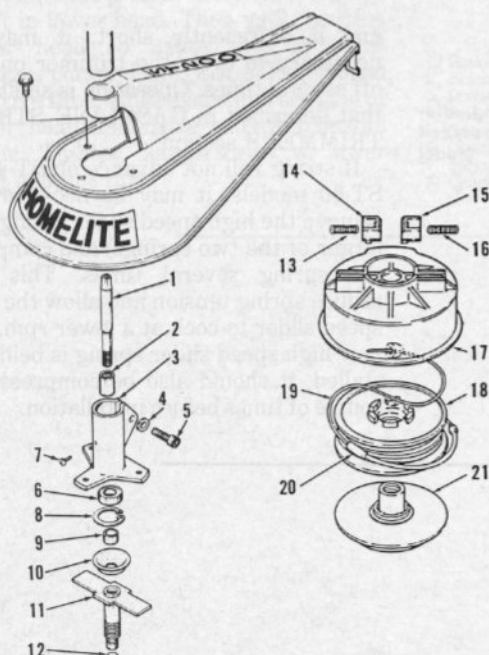

Fig. HL29-1—Exploded view of lower head on Model ST-200. Components (11 through 21) are used on Models ST-80, ST-100 and ST-120.
will automatically feed out string by cycling the engine throttle from full speed to idle speed. String head (17—Fig. HL29-1, HL29-3 and HL29-4) encases two slider and spring pairs for high speed and low speed engagement of
Spool retainer (21—Fig. HL29-1, HL29-3 and HL29-4) has left-hand threads and must be turned clockwise for removal. Be sure adapter (11) is fully seated in recess of string head (17) to prevent slider spring ejection.
Models ST-200 and ST-210 are equipped with a flexible drive shaft between the engine and drive head. The flexible drive shaft should be removed, inspected and lubricated after every 25 hours of operation. To remove drive shaft, remove screw (7—Fig. HL29-1 or HL-29-5) and loosen clamp screw (5). Slide head off drive tube and pull flexible shaft from tube. Clean and inspect shaft, then lubricate shaft with lithium grease. Insert shaft into drive tube (shaft ends are identical and shaft ends may be reversed to extend shaft life). Install head while turning head to engage shaft ends in engine and head. Align holes in front side of head and drive tube and install screw (7). Tighten clamp screw (5) so head will not turn.